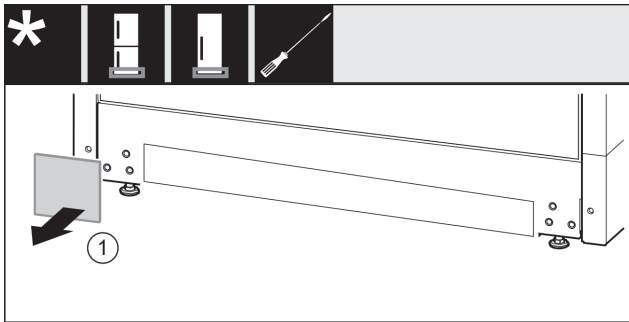

Fig. 14
- ▶ Take off the cover. Fig. 14 (1)